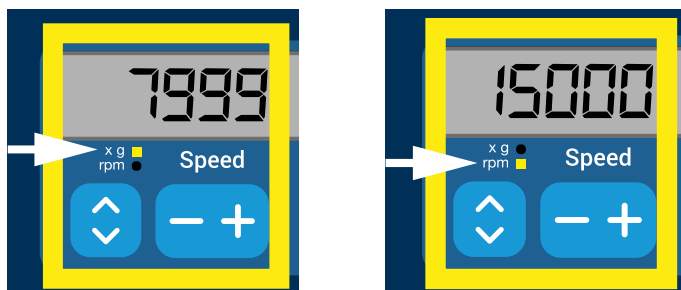

Figure 3–2: Choosing between RCF / rpm and setting the Centrifuge Speed
1. Press the **Arrow** keys below the xg / rpm LED indicators (left in Figure 3–2) to toggle between RCF (in xg, which means multiples of the force of gravity) and speed (in rpm, which is short for revolutions per minute).
The LED indicator **xg** or **rpm** is lit to indicate the selected mode, and the value in the LCD display switches to an **RCF** or **rpm** reading. The example in Figure 3–2 shows the rpm reading (bottom) and the equivalent RCF reading (top).